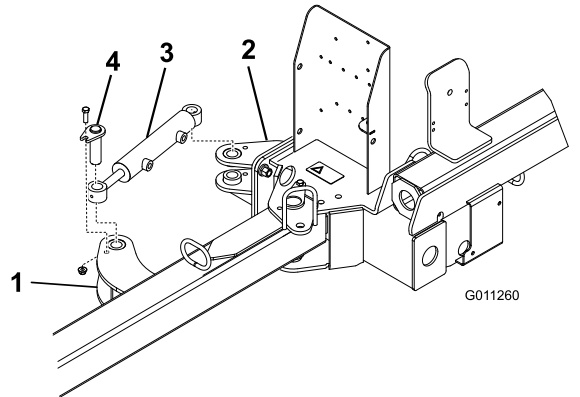

Figure 6
2. Secure each end of the hydraulic cylinder to an actuator tab with a pin assembly, a bolt (3/8 x 1-1/4 inch), and a flange nut (3/8 inch) Figure 6).